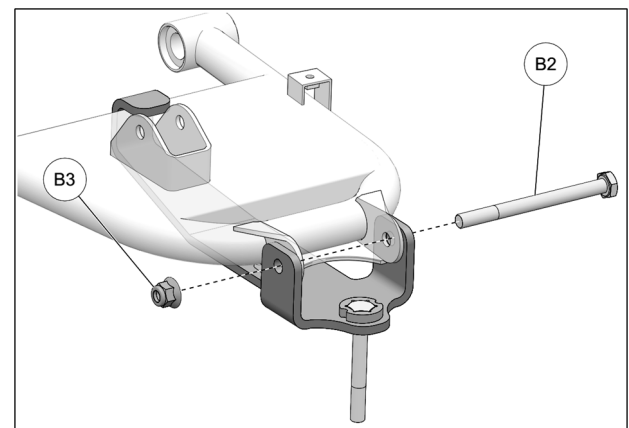

Fig. 9
8. Insert new M10x120mm bolt (**B2**) through anchor bracket, suspension arm, and wheel hub. Secure assembly using the provided new M10 nut (**B3**). Tighten nut to 50 N•m [37 lb•ft] of torque. See Fig. 9